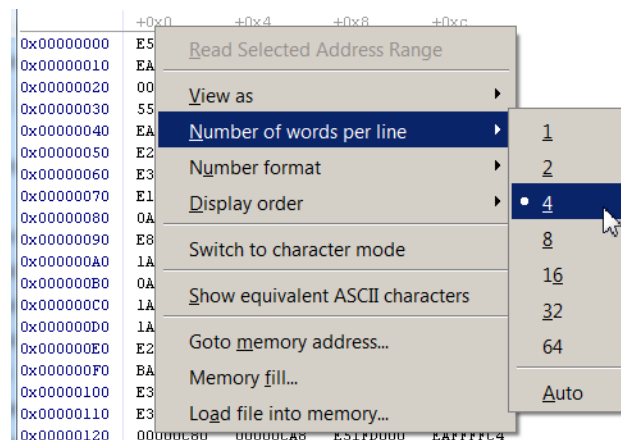

Figure 28. Setting the number of words per line.
- Number of words per line - the number of words per line can be configured to make it easier to find memory addresses, as depicted in Figure 28.